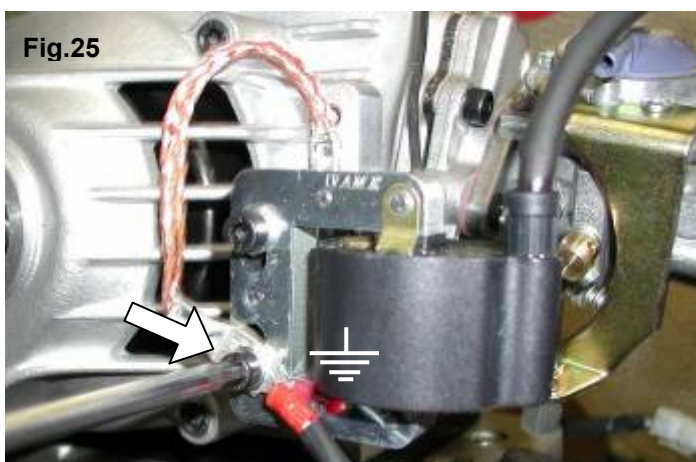

Fig.25
3.8.8 FIX THE SECOND HARNESS GROUND CABLE WITH THE EYELET TERMINAL (\varnothing 6.5mm), TO THE H.T. COIL, BY MEANS OF THE M6 NUT (SEE FIG. 25).